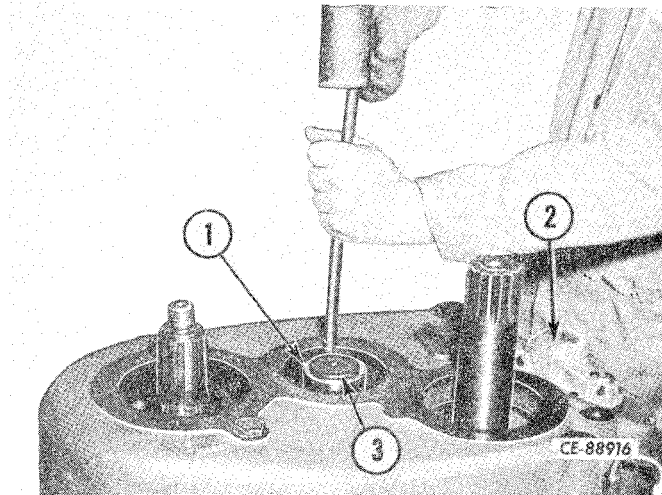

Figure 4-80
Turn transmission over and install the 2nd and 3rd speed bearing assembly. Heat the bearing inner race (1, Fig. 4-80) in oil or an oven to approximately 250°F and tap in place on clutch shaft (2) with a soft drift.